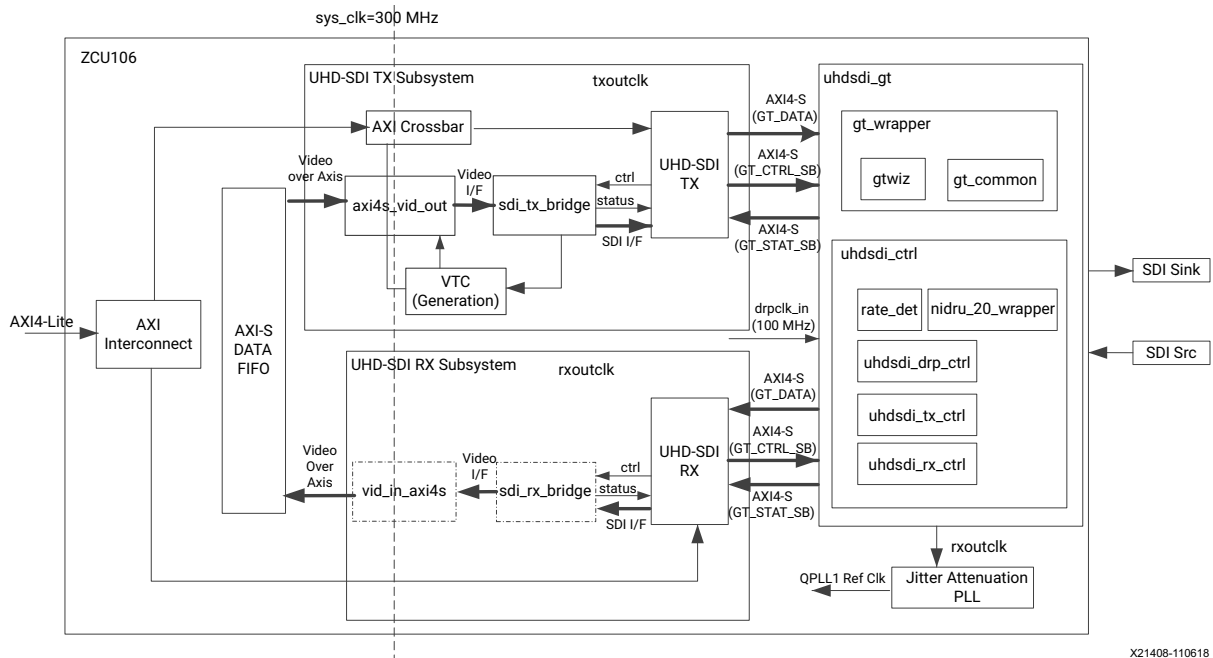

Figure 5-10: ZCU106 Pass-Through Example Design
The UHD-SDI pass-through example design, shown in Figure 5-10, is built using the SMPTE UHD-SDI TX and RX subsystems. Video or image data is received and processed by the SMPTE UHD-SDI RX Subsystem. The clock is recovered by the Xilinx® UltraScale™+ GTH transceiver (RX) and fed to the on-board PLL for jitter attenuation. A jitter-attenuated clock is used as a reference clock by the GTH transceiver for the TX data path. An AXI4-Stream FIFO is used for synchronization and temporary storage between the SMPTE UHD-SDI RX Subsystem and the SMPTE UHD-SDI TX Subsystem. The SMPTE UHD-SDI TX Subsystem transmits SDI data from the AXI4-Stream FIFO after the application programs the SMPTE UHD-SDI TX Subsystem sub-core registers based on the received SDI stream and ST-352 payload packet data. The example design application software runs on the Zynq UltraScale+ MPSoC Arm processor subsystem (PS) and is fully software controlled.
Note: The Zynq UltraScale+ MPSoC PS is not shown in Figure 5-10 for simplicity.